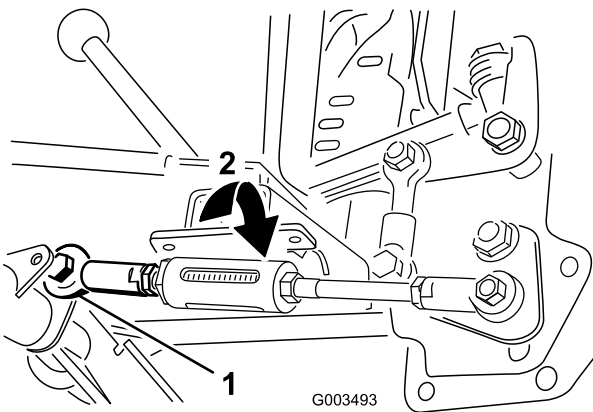

Figure 19
- A. Remove the bolt and nut that secures the rod to the pivot tube (Figure 19).
- B. Rotate the ball joint shown in Figure 19 to change the length of the rod as follows: